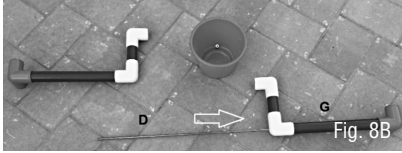

Fig. 8B
Insert Support Rod (D) into the Right Support Arm (G) as shown (Fig. 8B).